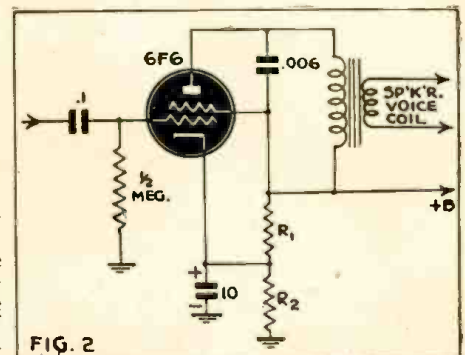
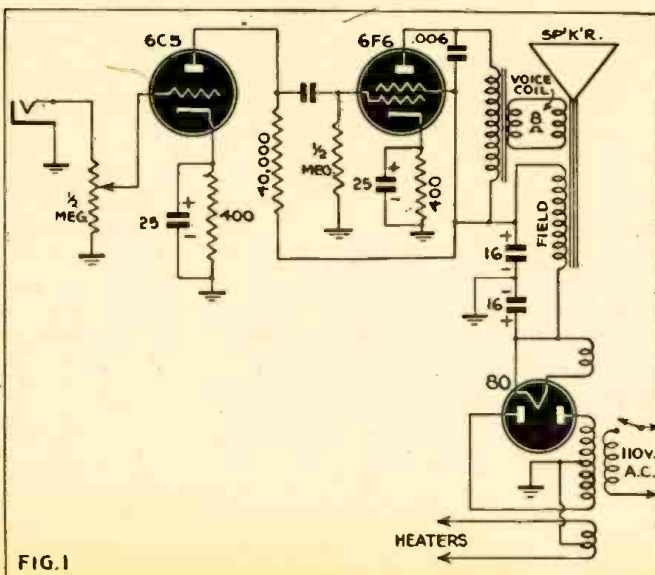
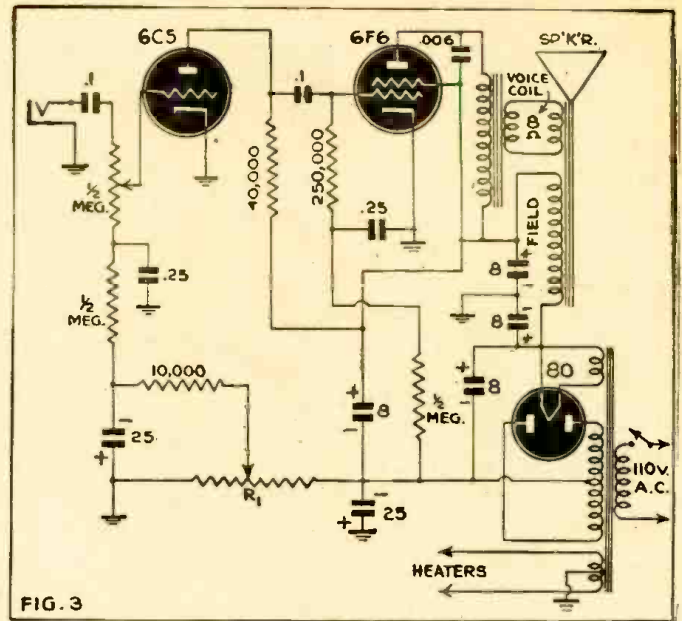
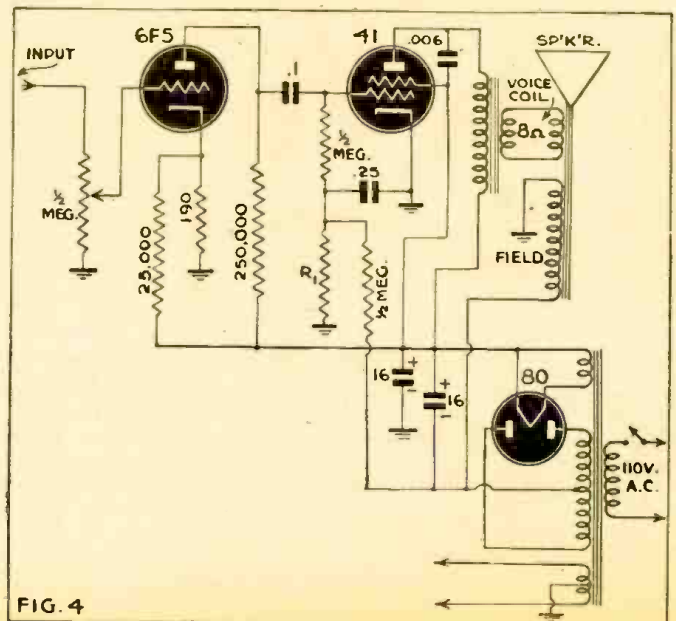

FIG. 2
FIG. 1
FIG. 3
FIG. 4
(1) The CURRENT FLUCTUATIONS in a half wave antenna may be represented by the vibrations of a stout rubber band held fixed at the ends and plucked at the center so as to vibrate as in FIG. 3-A. Our rubber band would, of course, have to vibrate a million times a second to really represent our 1000-kc. R.F. current.
In FIG. 3-A:
(2) VOLTAGE fluctuations in our wire may be crudely represented by screwing a thin steel strip (as used to hold large packing boxes together) at the center and setting both ends in vibration (Fig. 3-B). Our steel strip would have to vibrate a million times a second to represent adequately our 1000-kc voltage!
In Fig. 3-B:
Fig. 4—The electrostatic and electromagnetic fields around a vertical antenna during a complete cycle of R.F. antenna voltage and current, and below, the relative phases of voltages and currents setting up these fields.
alternating R. F. voltage alternates, and since these are the HIGHEST values attained by the voltage ANYWHERE along the whole wire, we see why it was that our neon lamps glowed most brilliantly at the ENDS of our wire (Fig. 3-B).
Again at C, the voltage alternates through all values between "+G and -J volts" which limiting values are still less than the peak values at B. Thus we should expect a neon lamp here to be dimmer still, which was indeed the case (Fig. 2-B).
Fig. 3—Another view of current and voltage distribution. At A are shown the values through which current may pass during a cycle, at any point on the antenna wire. Similar voltage values are shown at B, while at C, the average current and voltage values are shown in single-line graphs.
It's ten to one that you used something like the circuit of Fig. 1 when you decided to build a phono amplifier with this magic tube with which to amaze your friends. This is the typical circuit we all know well.
Our primary aim, then, is to make the bias voltage completely independent of the tube to be biased. This is the primary feature of fixed bias. One way to do this is to connect the cathode of the 6F6 output tube of Fig. 1 to a point on a bleeder across the B+ supply (Fig. 2). One can see that through R2 we have two current components—the cathode current and the bleeder current. The cathode current is subject to the same variations as before but the bleeder current (assuming a decent power supply) is constant.
Second, the ordinary receiving type power tube has no critical grid impedance, and so we may forget about that. All we have to do is to unground the grid return of our 6F6 in the circuit of Fig. 1 (or of any other tube in a similar application—the 6F6 is here used merely as an example) and apply the right bias from the simplest source we find handy—anything that gives 22.5 volts and is stable. Some tubes, like the 6V6, have a fairly low maximum permissible grid resistance. The solution to this problem is merely to use transformer coupling.
One of the most widely used methods of biasing is the type using a resistor in the negative return of the power supply. It is the one found in 90% of the commercial A.C. sets. In this type, a resistor is inserted between the power transformer's high voltage secondary centertap and ground. The entire B+ current must pass through the resistor in such a direction that a voltage, negative with respect to ground, builds up across the resistor. By using the correct resistance value, the correct voltage for biasing the output stage may be obtained. Fig. 3 shows the circuit of Fig. 1 adapted for this biasing system. The value of R1 may be determined as follows by applying Ohm's Law: If It represents the total current drawn from the power supply (including current drawn by any bleeders which some circuit other than that of Fig. 4 may use), then, for a 6F6 in class A1 (22.5 volts bias):
coupling resistor-condenser networks, to prevent the hum from reaching the grids of the audio tubes. Extra filtering is also required—note the two pairs of filter condensers in Fig. 4. Low supply voltage and additional difficulty in filtering the output of a half-wave rectifier make the system entirely impractical for A.C.-D.C. sets. It is cheaper to use two tubes in push-pull with cathode bias than to buy the condensers and find the extra chassis space required to bias a single tube by this method.
The commercial A.C. set designers have several tricks that the experimenter might well profit by to help him overcome the disadvantages while retaining all the advantages of this system of fixed bias. Fig. 4 shows the circuit of an audio system closely paralleling that of a G.E. set. The circuit was noted down while the set was in the author's shop for servicing because of the efficient way in which the type 41 operated and the neatness with which most of the undesirable features of the bias supply system just described were overcome. The main feature of the circuit is the substitu-
Using the necessary voltage drop across the speaker field coil to supply negative bias voltage make this a more efficient circuit than that of Fig. 3. Fair power levels may be attained with this hookup.
This tangency tracking error can be minimized by using a pick-up with a stylus head off-set about 30 degrees or so. A medium-sized arm with a tangent off-set head used on a standard-sized recording will result in only about one or two degrees of tracking error. When a longer arm of about 12 or 14 inches is used with such a head, the tracking error is negligible. See Fig. 1 (a) and (b).